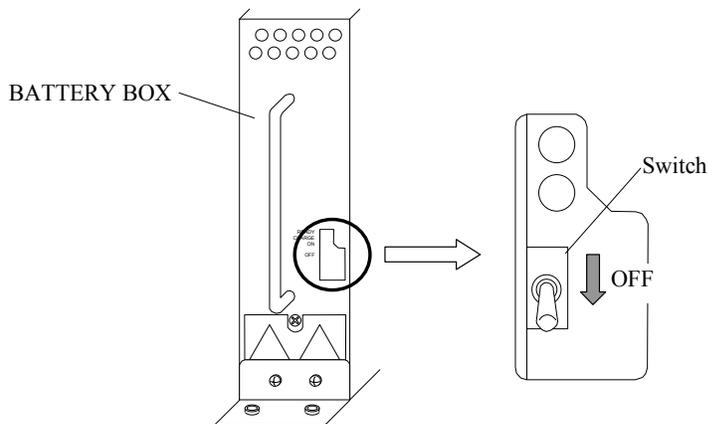

Fig. T10.1-1 Switch on Battery Box
- c-1 Turn off the switch on the replaced Battery Box. (Refer to Fig. T10.1-1.)
- d-1 Turn off the switch on the replaced Battery Box. (Refer to Fig. T10.1-1.)
- d-2 Remove the four screws ①, two screws ②, and bracket-2.